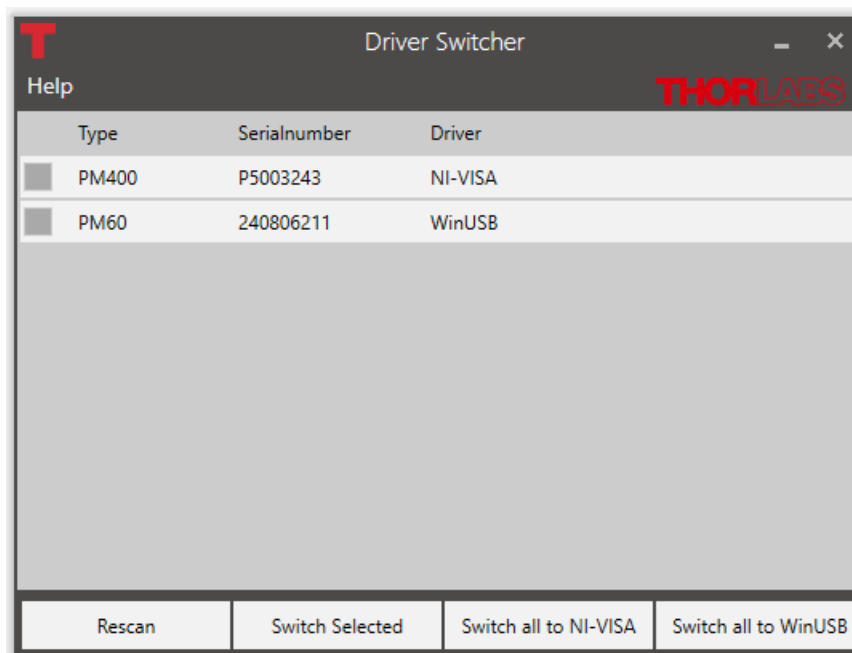

Figure 25 **Driver Switcher**
1. Open the Driver Switcher. The interface displays a menu bar and a table (see Figure 25) listing all attached instruments, including their type, serial number, and the currently used driver.